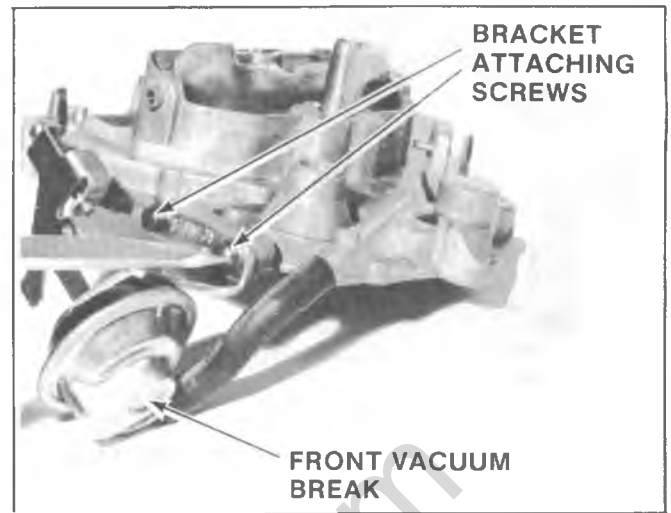

Fig. 6C3-21--Removing Front Vacuum Break
8. Remove aneroid cavity insert from float bowl (Fig. 6C3-25).